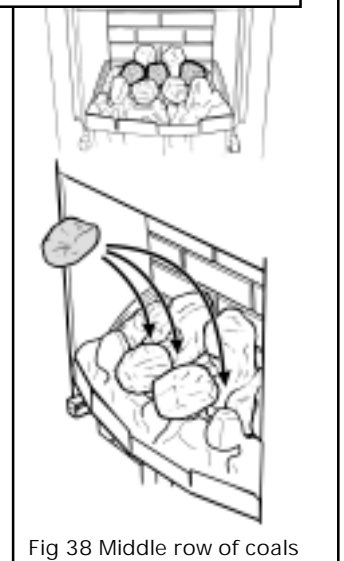

Fig. 38 Middle row of coals
**10.5.2** Place the three remaining coals behind and approximately midway between each of the coals in the front row (See figure 38).